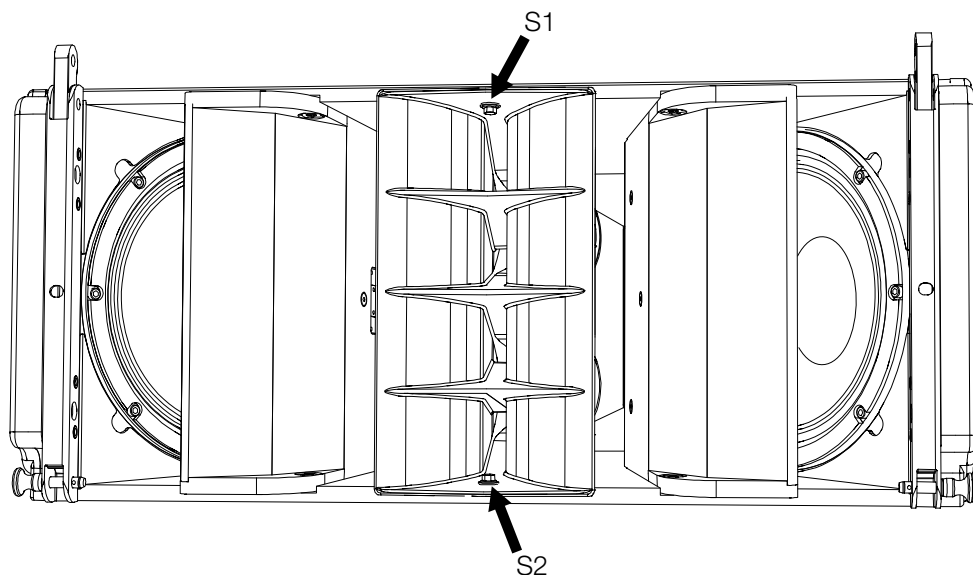

Figure 4.3 - changing the high frequency unit
4. Loosen the two screws of the high frequency unit (see figure 4.3 - S1 and S2). Use a tool with SW8.